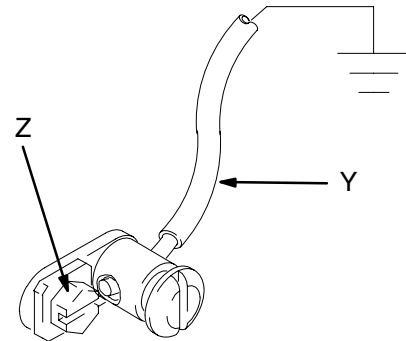

Fig. 1
- *Pump:* Use a ground wire and clamp as shown in Fig 1.
Use a ground wire and clamp. See Fig. 1. Remove the ground screw (Z) and insert through eye of ring terminal at the end of ground wire (Y). Fasten ground screw back onto pump and tighten securely. Connect the other end of the wire to a true earth ground. Order Part No. 222011, Ground Wire and Clamp.